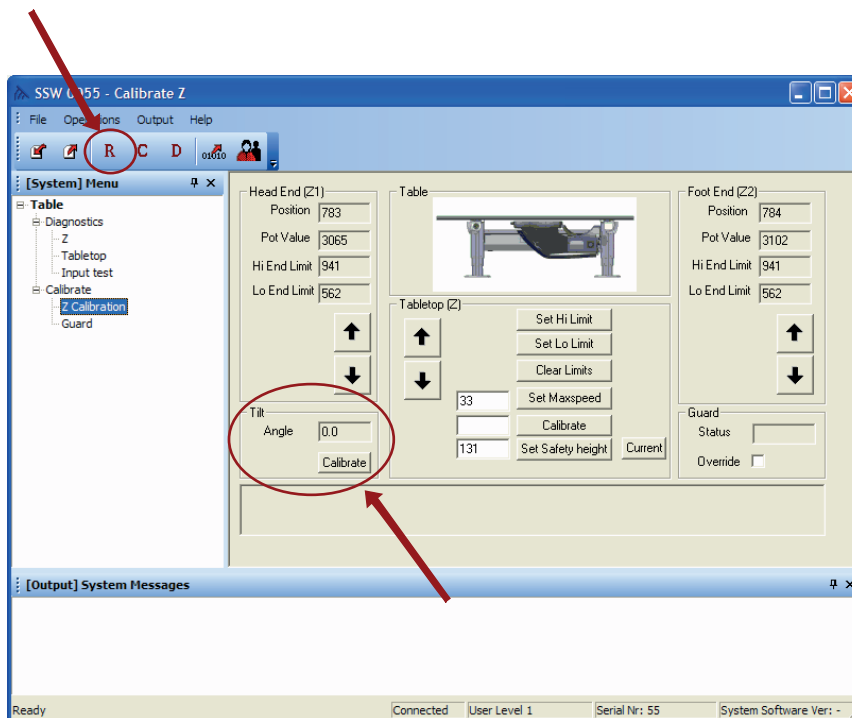

Fig. 5-157 *Reset button*
6. Press the *Tilt Calibrate* button (lower left corner of the view), see Fig. 5-157 *Reset button*. The displayed angle shall now be set to 0.0°.
7. Press the reset button (R), see Fig. 5-157 *Reset button*.